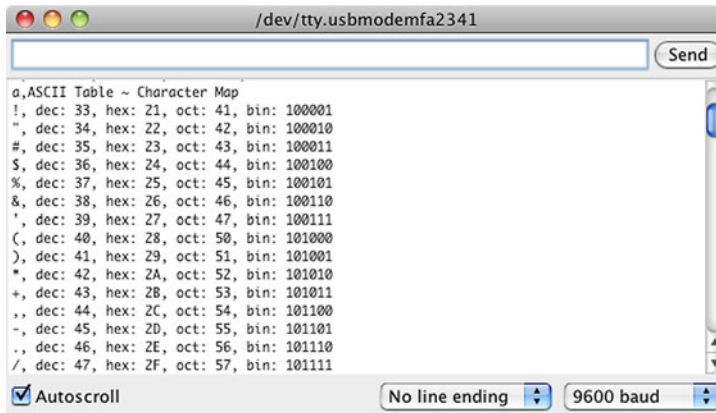

Figure 1.9 The serial monitor showing the output from an Arduino printing out an ASCII table
- *Serial monitor*—Opens the serial monitor in a new window (see figure 1.9 in the next section).
The serial monitor mentioned in the previous section monitors data between the Arduino and the host computer system over the connected USB cable. The Arduino can send information using code, and it can also receive it. You can see this in figure 1.9.